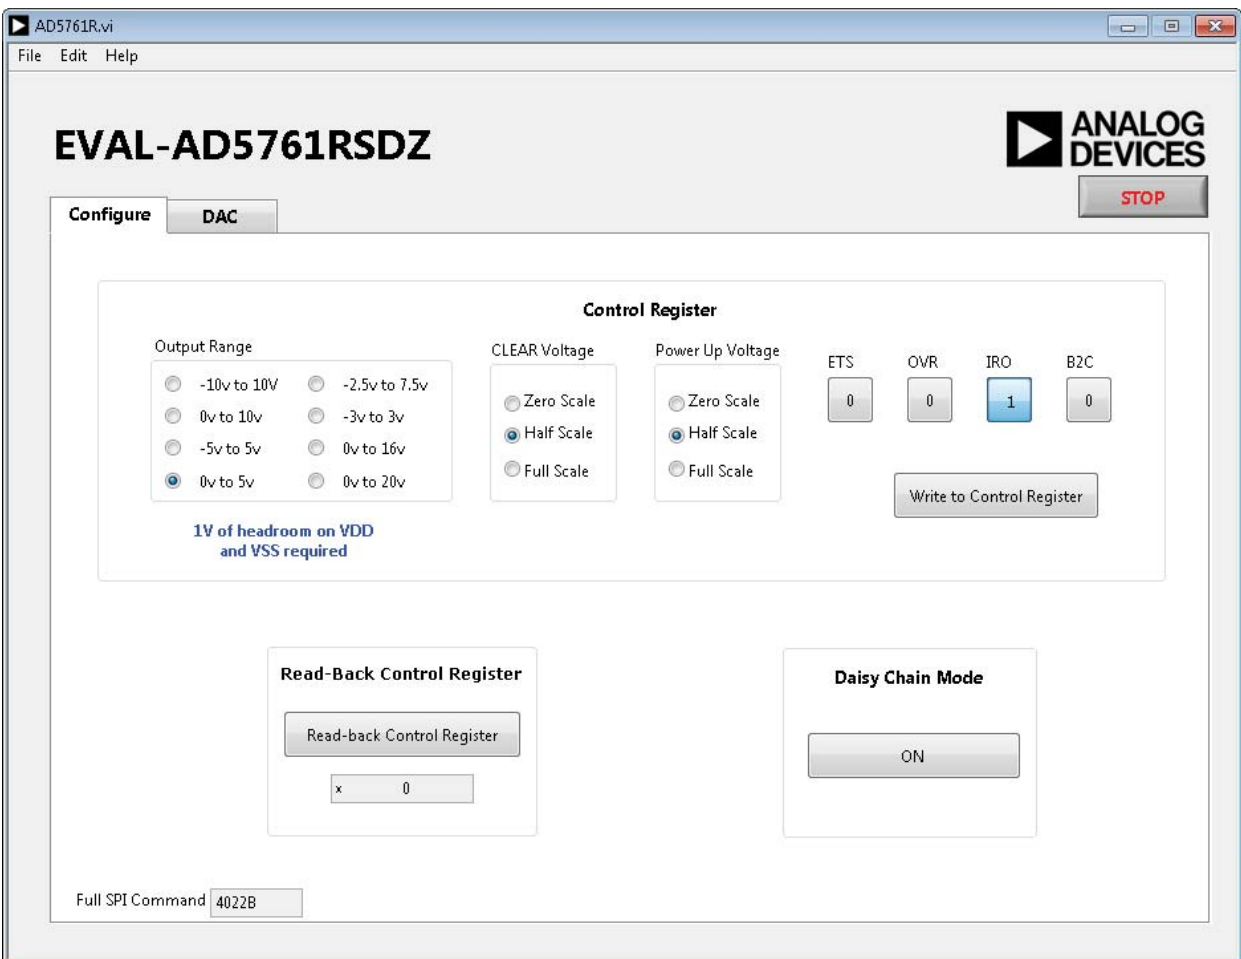

Figure 5. Evaluation Software Main Window, **Configure** Tab
1. From the **Start** menu, click **Analog Devices > AD5761R > AD5761R Evaluation Software**. The main window of the software opens (see Figure 5).
The **Configure** tab allows access to the control register and the mode of the daisy-chain functionality of the device. Figure 5 shows the **Configure** tab in the main window.